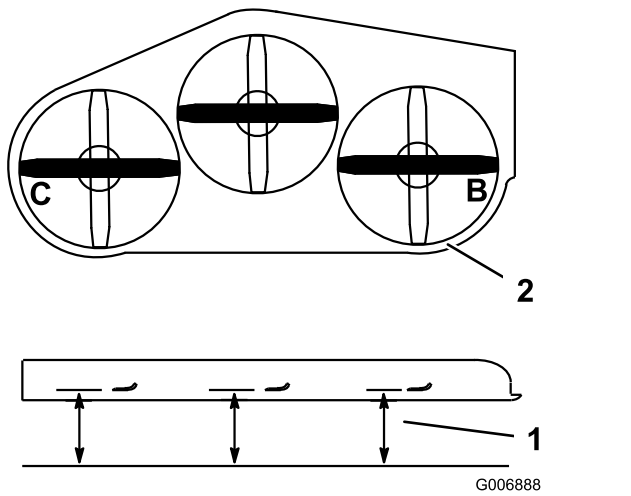

Figure 110
1. Position the **right** blade side-to-side (Figure 110).
2. Measure the right blade at the **B** location, from a level surface to the cutting edge of the blade tip (Figure 110).
4. Position the left blade side-to-side (Figure 110).
5. Measure the left blade at the **C** location (Figure 110), from a level surface to the cutting edge of the blade tip.